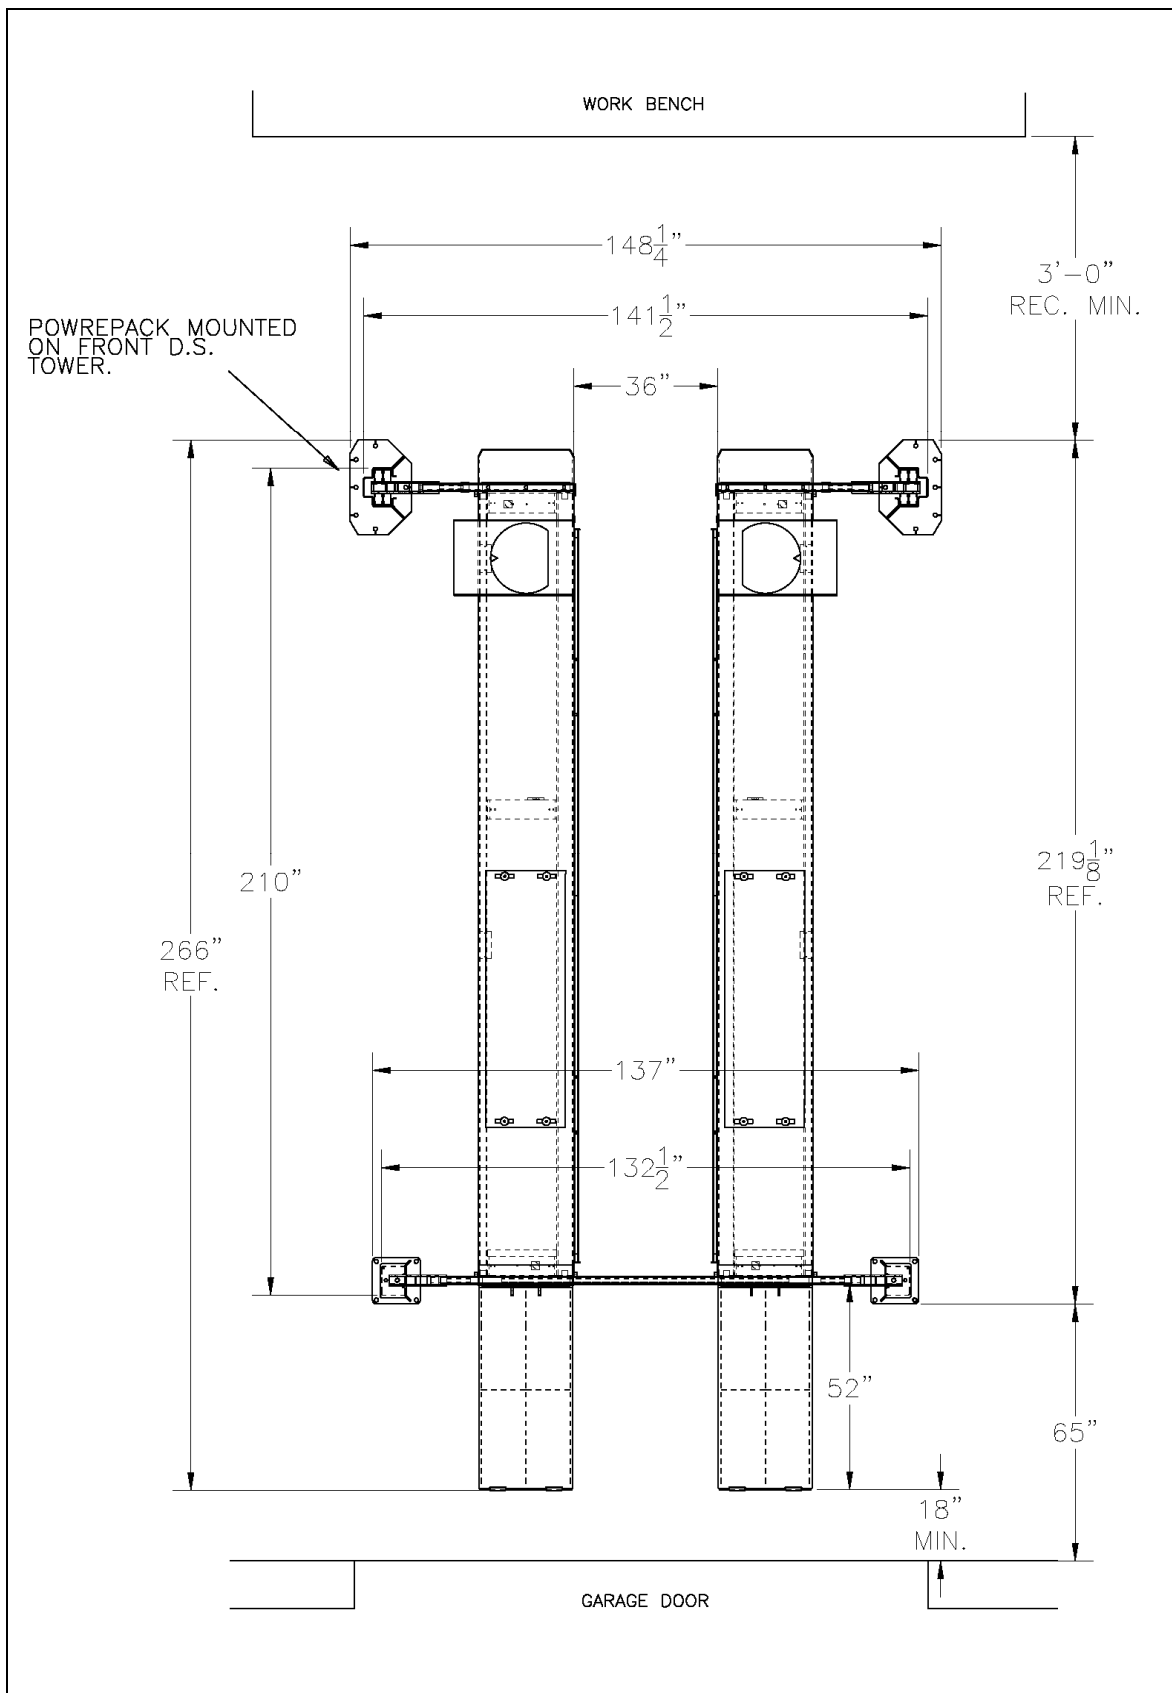
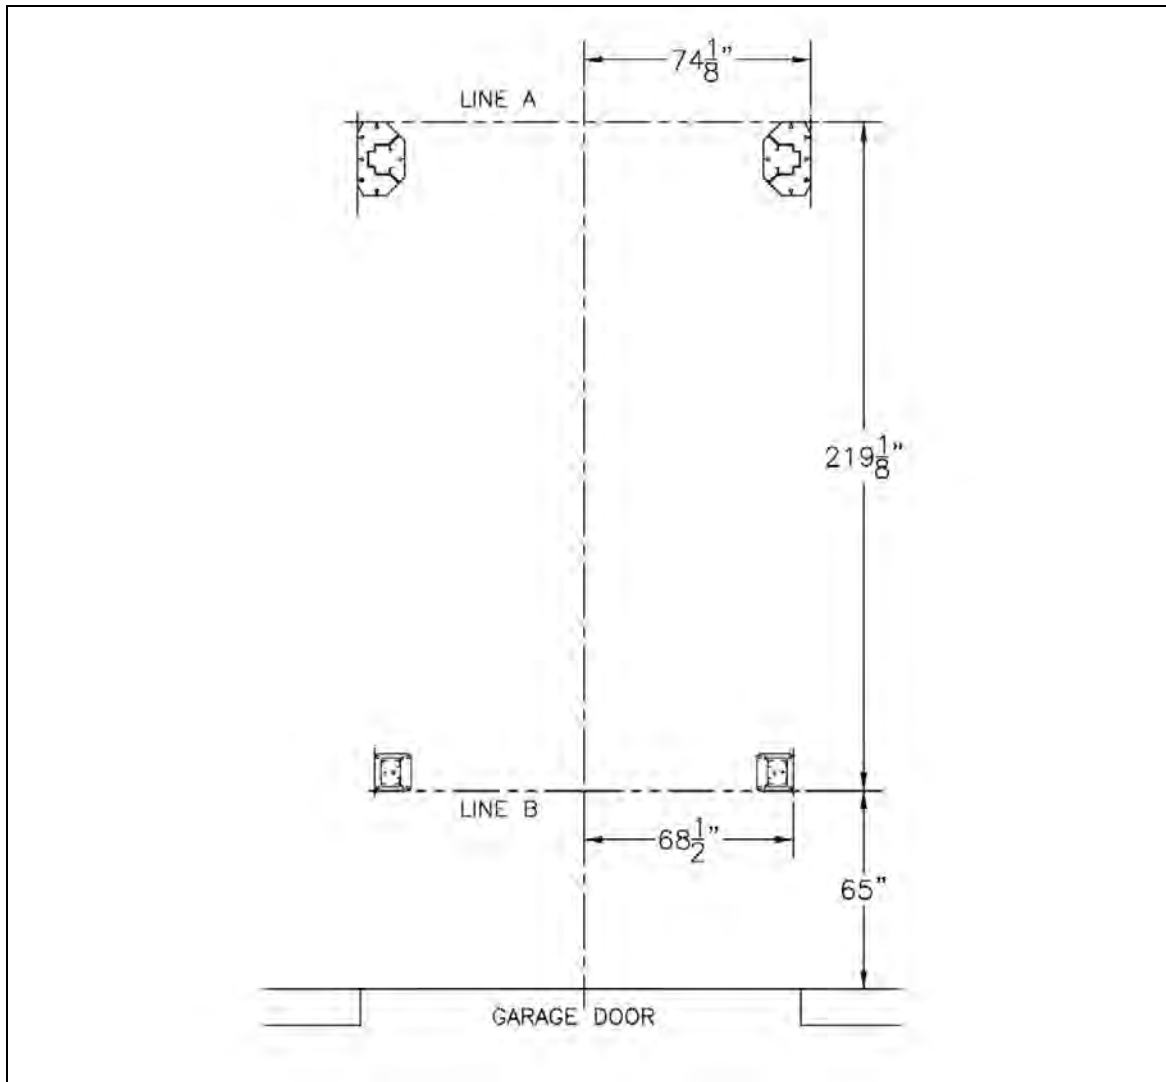

Figure 1. General lift specifications
Figure 2. Chalk line layout
- An outline matching the dimensions shown in Figure 2 will need to be marked on the floor. Refer to Figure 2 for outline dimensions. Refer to General Lift Specifications for overall lift dimensions. Figure 1.
- **Refer to Figure 2.** Make a chalk line parallel to the doorway at least $284\frac{1}{8}"$ in from the doorway. Call this line "A". This will be the location for the front face of the front posts basplate.
- Stand front towers up and position as per bay layout. See Figure 1 and Figure 2.
- Stand rear posts into position according to Figure 1 and Figure 2.
- Install the threaded stud end of the cables through the top of the post. Use a 7/8" flat washer, and two (2) 7/8"-14 UNF hex nuts with cable spacers as required, to compensate for uneven floors.